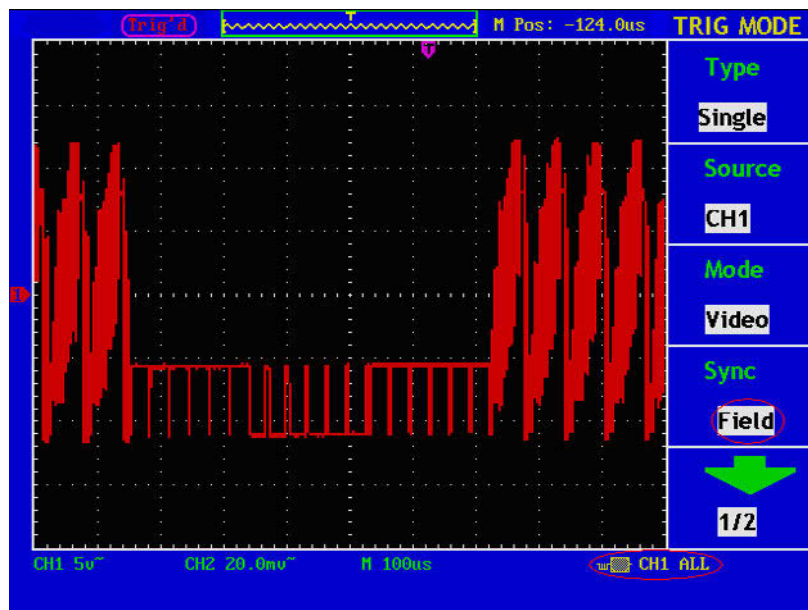

Figure 109. Wave Form Obtained from Video Field Trigger.
- 6 Adjust the **VOLTS/DIV**, **VERTICAL POSITION** and **SEC/DIV** knobs to obtain a proper wave form display (see Fig.109).